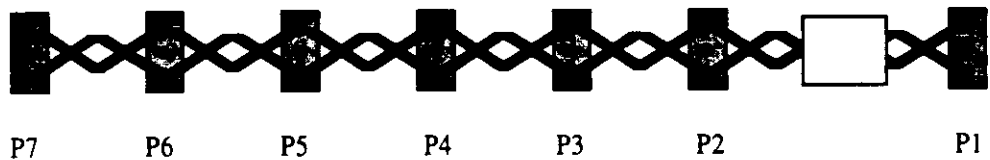

Figure 2-13. Upper Communication harness 8303716G1
- c. If needed, connect P2 of the 8303718G1 cable to P1 of the Upper Communication harness 8303716G1 (Figure 2-13). Otherwise, connect a 8302374G1 termination to P2 of the 8303718G1 cable assembly.